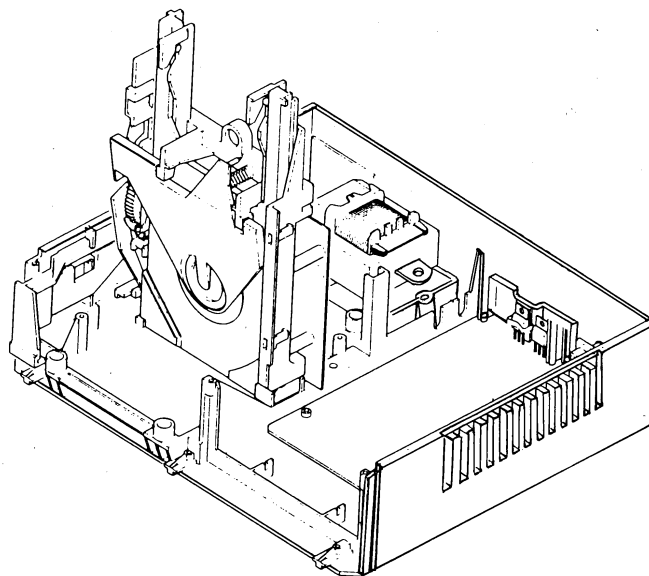

Fig.1-2
SERVICING OF THE SERVO + PREAMPLIFIER PCB (see Fig.1-2)
- Now the tray mechanism/CDM/servo + pre-ampl. PCB assy can be taken out of the frame and can be placed vertically in the appropriate servicing supports in the frame (see Fig 1-2).